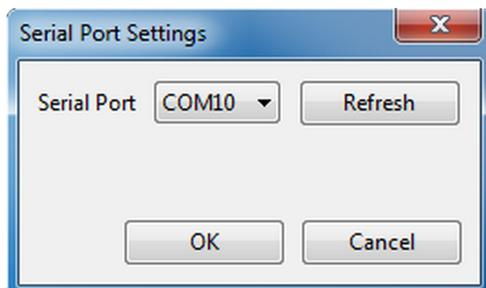

Figure 33: 940A Utility Serial Port Settings
3. To select the COM port, click **Settings** then **Serial Port** in the Utility menu. Select the COM port of your computer, click OK. See Figure 33.